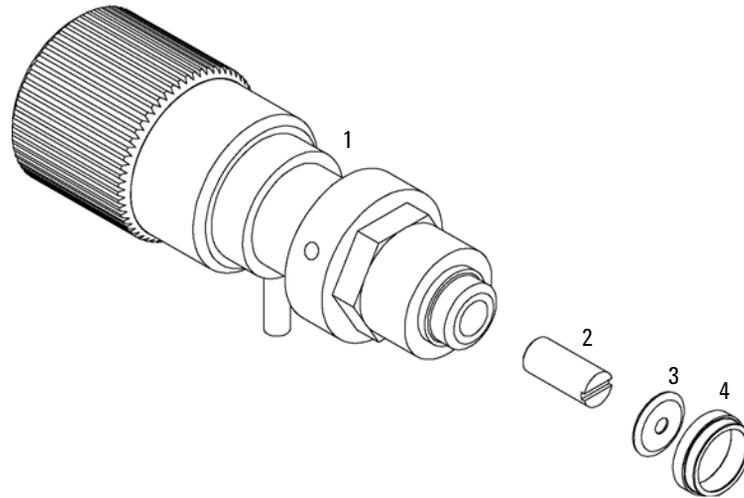

Figure 25 Purge Valve Parts
- 6 Place a new frit into the purge valve with the slit facing the gold seal (see Figure 25 on page 119).